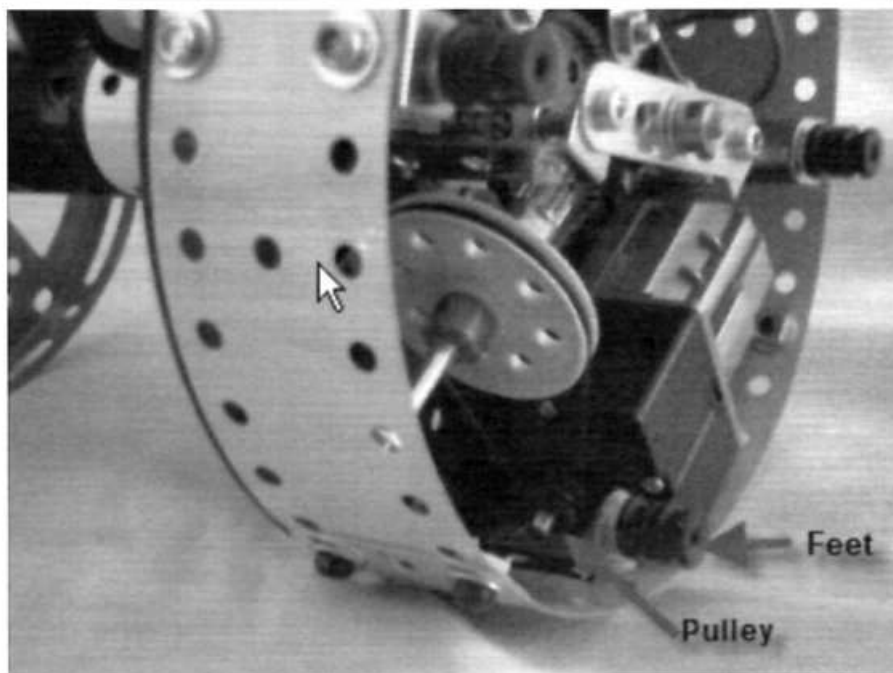

Fig. 1
1. A pulley on the shaft of the 19 to 1 gearbox and as a model foot on a $1\frac{1}{2}$ " bolt. (see Fig.1).